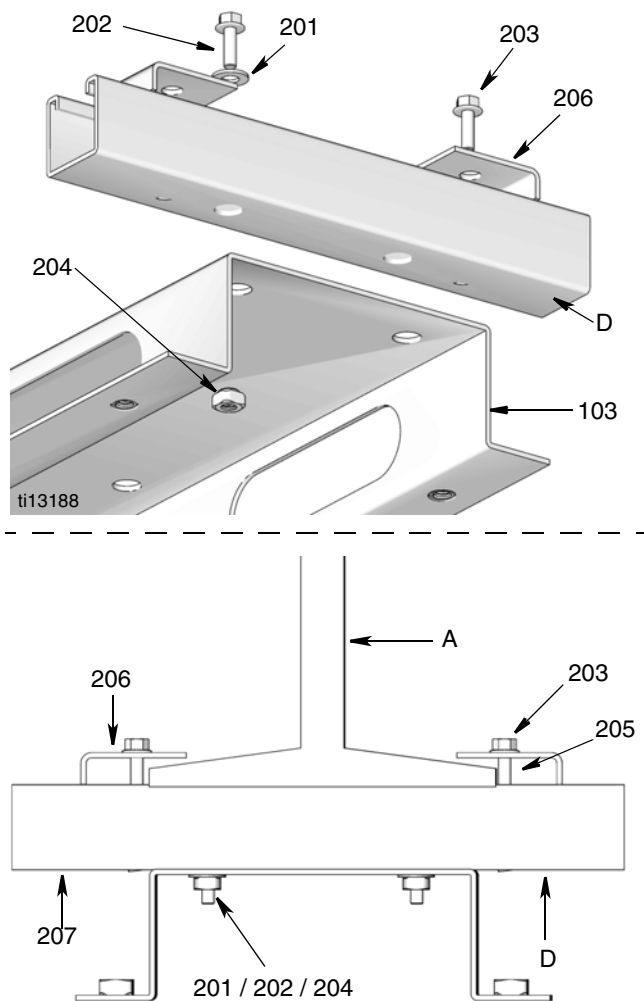

FIG. 10
1. Secure mounting brackets (D) to the channel.
2. Position the adjustable clamps (206) of the mounting brackets over the I-Beam (A), and tighten them securely (FIG. 10).